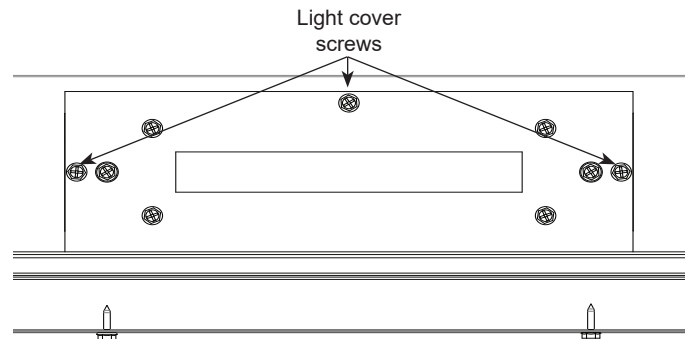

Figure 25. Top Light Screws
1. Remove three screws holding light cover in place (as shown in Figure 25.)
2. Insert (1) 90W bulb provided into socket.